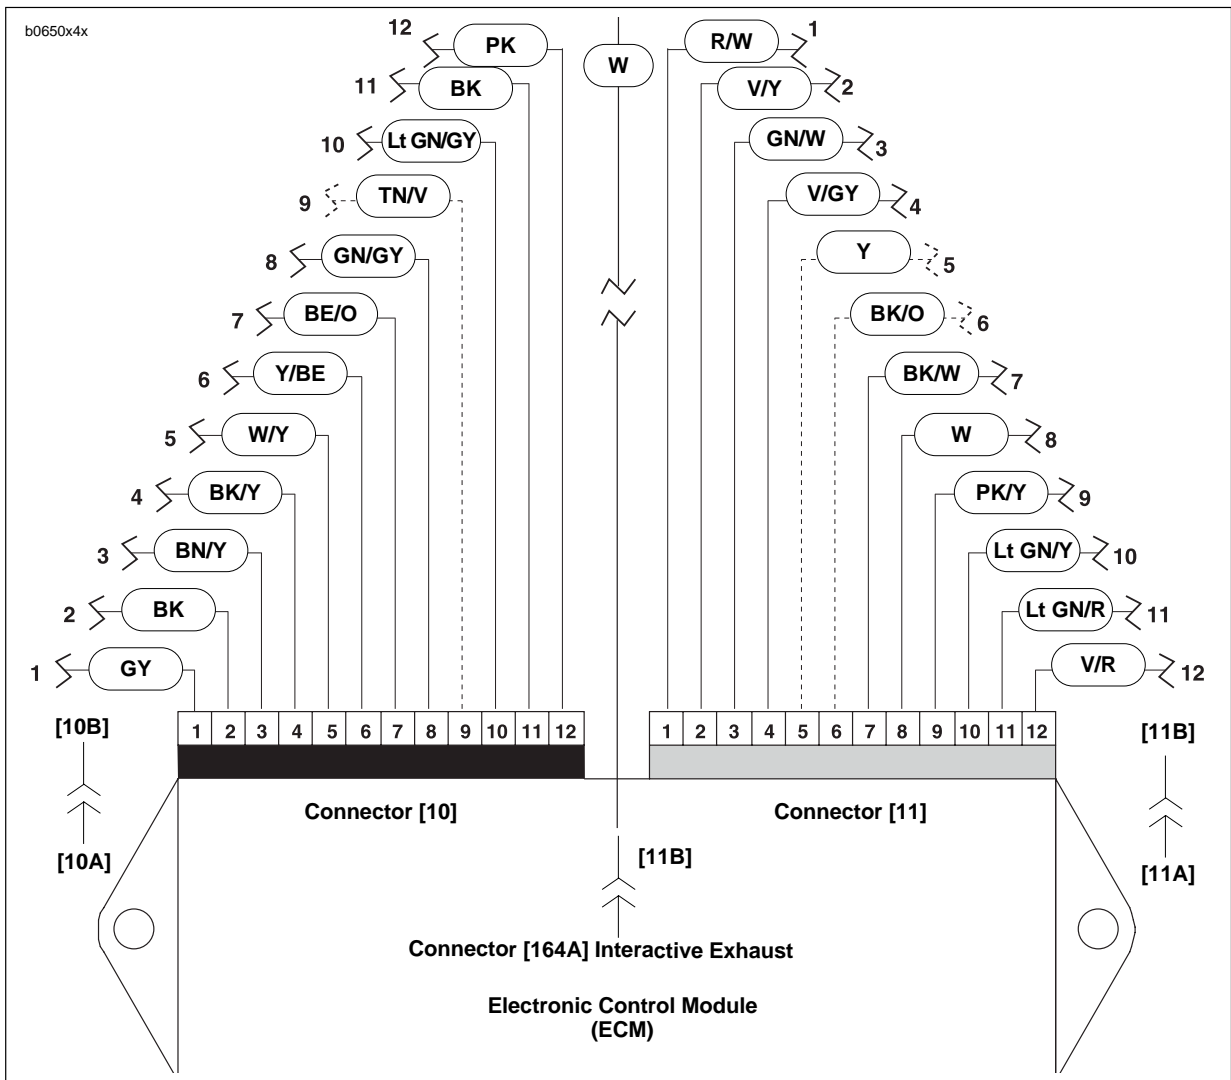

Figure 4-66. ECM Wiring (Interactive Muffler Connector [164] XB12 Models Only)
6. See Figure 4-66. Remove connector terminal pins (7). See B.2 DEUTSCH ELECTRICAL CONNECTORS.
6. See Figure 4-66. Attach connector [3] (2).
8. Tighten timer plate studs (4) to **15-30 in-lbs** (2-3 Nm).
9. Install inner cover (20) using screws (3). Tighten to **12-20 in-lbs** (1-2 Nm).